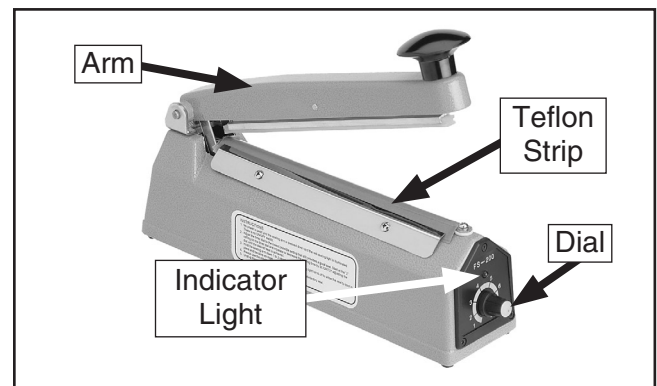

Figure 2. Model H6152 identification.
2. Adjust the dial on the sealer (see **Figure 2**) according to the thickness and type of plastic bag.